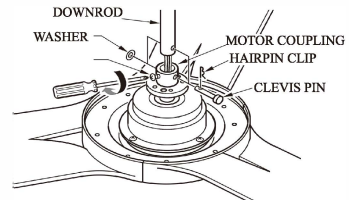

FIG.4
3. Reinstall the 2 set screws in the motor coupling and securely tighten set screws against the down rod assembly.(See fig.4 & 5)